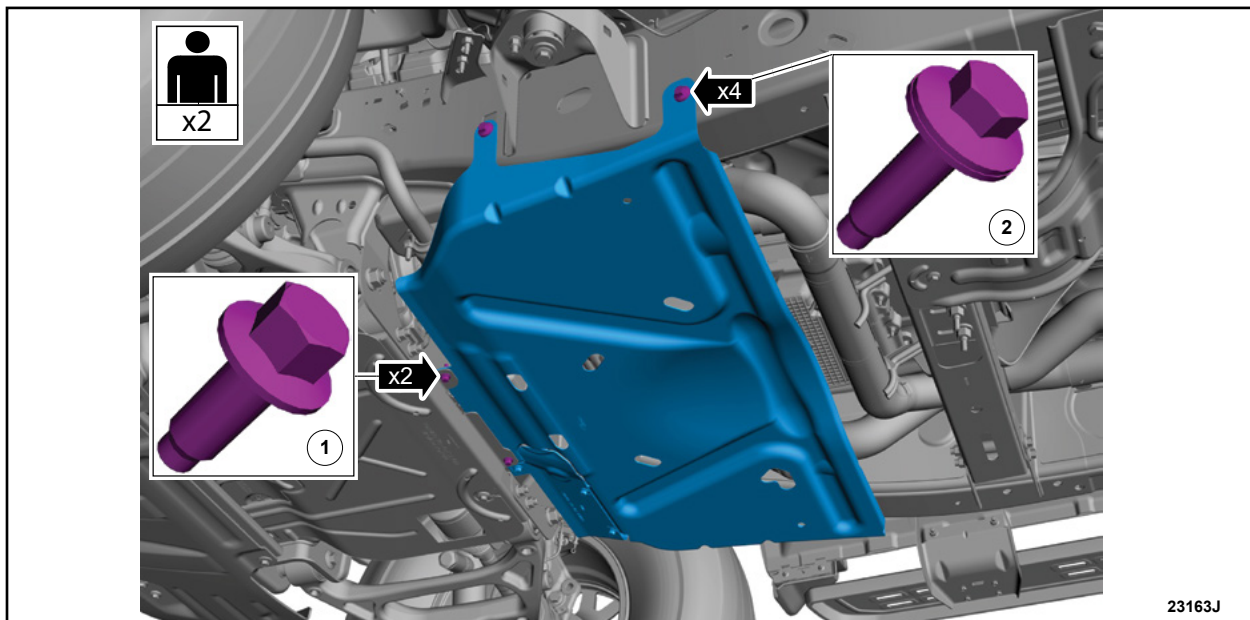

FIGURE 6
7. Using the aid of another technician, install the underbody shield and bolts. See Figure 6. This completes the FSA.